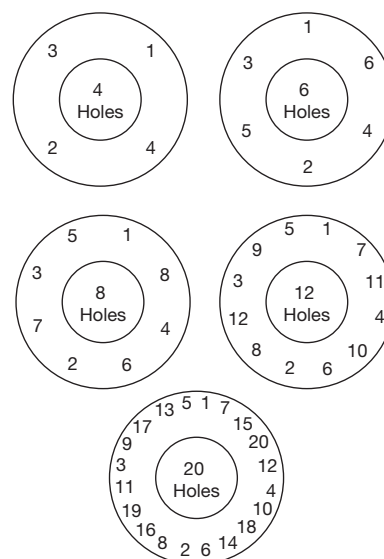

Figure 39: Bolt Tightening Patterns
- 16. Apply a small quantity of lubricant to the spring washer bearing surface of the spindle (15).
- 17. Place the spring assembly on the spindle (15).
- 18. Place a new bonnet gasket (12) in the base (1) before installing the bonnet (11). Uniformly tighten the stud nuts (14) using the appropriate bolt tightening pattern (see Figure 39). Determine the required torque for the subject valve (see Table 11). Determine the torque values for each round of the pattern (see Table 11). The last round ensures that all stud nuts are at the required torque.
- 19. With the adjusting screw locknut (20) assembled near the top of the adjusting screw (19), apply a small quantity of lubricant to the spherical end and threads of the adjusting screw.
- 20. Thread the adjusting screw (19) into the bonnet (11) until it contacts the spring washer (17).